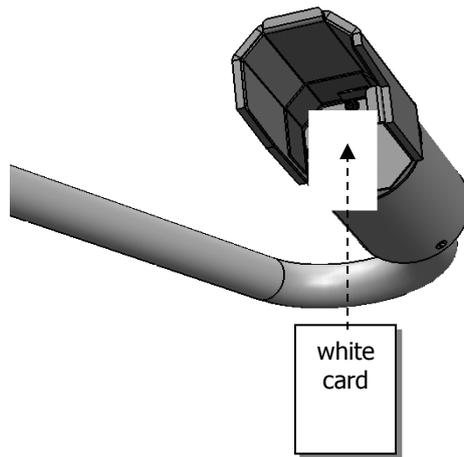

Figure 4-1 Transmitter hood with white card
Step 4. Insert a white card (or paper) in the transmitter hood that blocks and almost touches the window (see Figure 4-1 Transmitter hood with white card).
Step 5. Insert a white card in the receiver hood that blocks the window, and almost touches it (similar to Figure 4-1 Transmitter hood with white card).